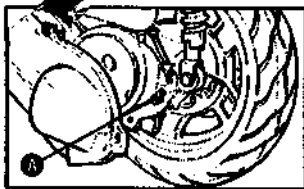

Fig. 1
2. Remove the screws fixing the drive guard. Rotate the guard as shown in figure 1 to expose level plug «A».